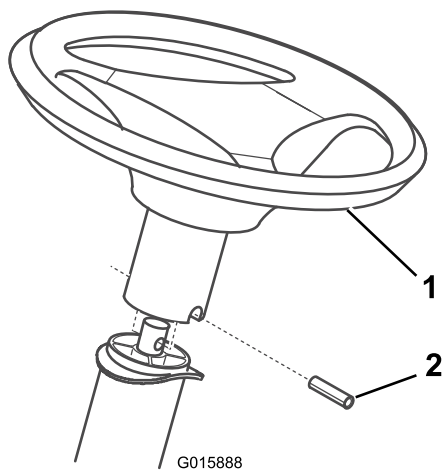

Figure 3
2. Slide the steering wheel over the steering shaft and line up the hole in the steering wheel with the hole in the shaft (Figure 3).
5. Using a hammer, drive the spirol pin in until it is flush with the outside of the steering wheel (Figure 3).
1. Position the seat onto the seat base by inserting 2 shoulder bolts through the key hole openings at the end of both slots (Fig. 3).